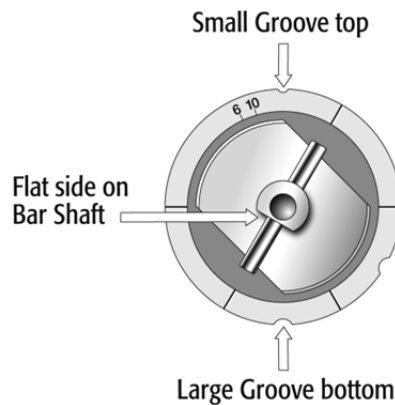
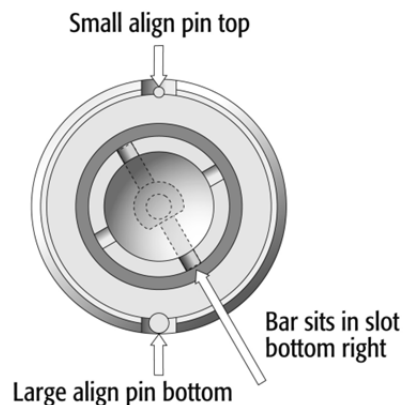

Figure 64. Rheodyne Valve PD 7991, Rotor Position
Figure 65. Valve Drive Settings for Rheodyne Valve PD7991
3. Check that the valve guide pin remains at its position. Observe the correct orientation of the guiding pin as shown below in Figure 64 and Figure 65 for the Valve Drive position;